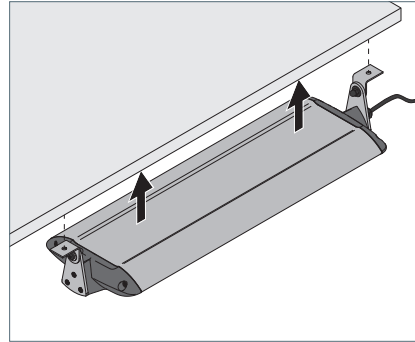

Fig. 1: Mounting the luminaire.
- Mount the luminaire on the mounting surface using suitable screws and tighten the screws, see Fig. 1. If necessary, use washers.